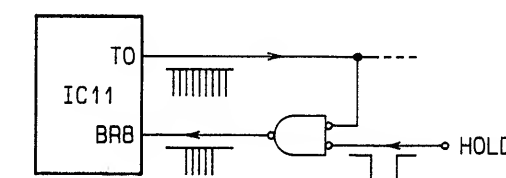

Fig.15
- IC11 also reads in the HOLD Pedal. The circuit is shown in Fig.15.
- IC11はHOLD Pedalの読み込みも行っています。回路をFig.15に示します。